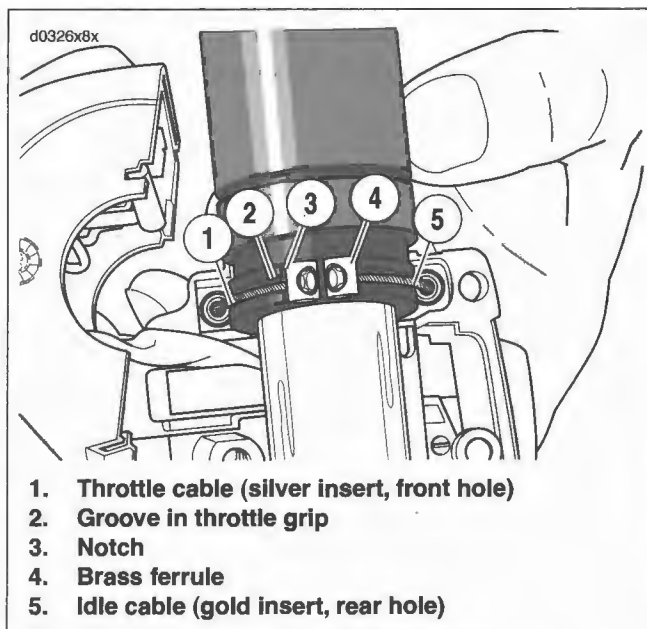

Figure 8-98. Throttle Cable Installation
5. See Figure 8-98. Position lower switch housing beneath the throttle control grip. Install the brass ferrules (4) onto the cable so that the end fittings seat in the ferrule recess. Seat the ferrules in their respective notches (3) on the throttle control grip. Verify that the cables are captured in the grooves (2) molded into the grip.